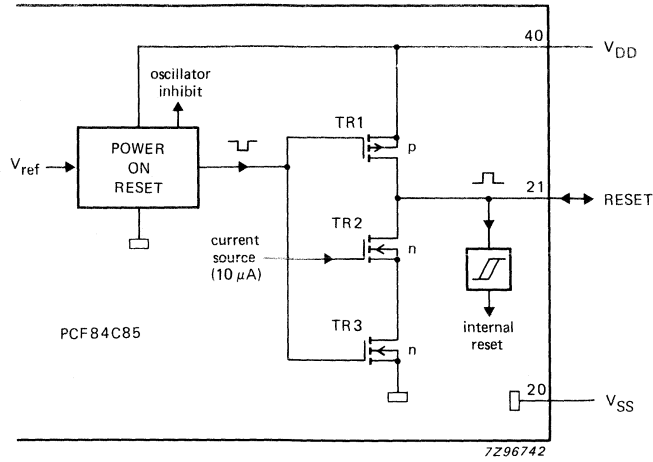

Fig. 21 Power-on-reset configuration.
1. If  $V_{DD}$  can be switched on with fast rise time i.e.  $V_{DD}$  reaches its minimum operating value (corresponding to the selected oscillator frequency) before the RESET signal ( $t_D$ ) has finished, then no extra components are required (see Fig. 21 and 22). Note that the first instruction is executed after the oscillator start-up time plus 1866 clock periods have elapsed.